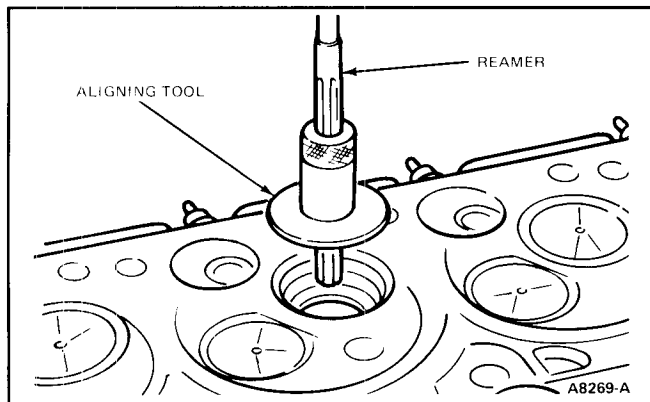

FIG. 68 Reaming Valve Guide
4. If valve stem clearance is excessive, ream out valve guide using reamer and aligning tool from Valve Guide Service Set D84P-6085-A, or equivalent (Fig. 68). Then, install an oversize valve.